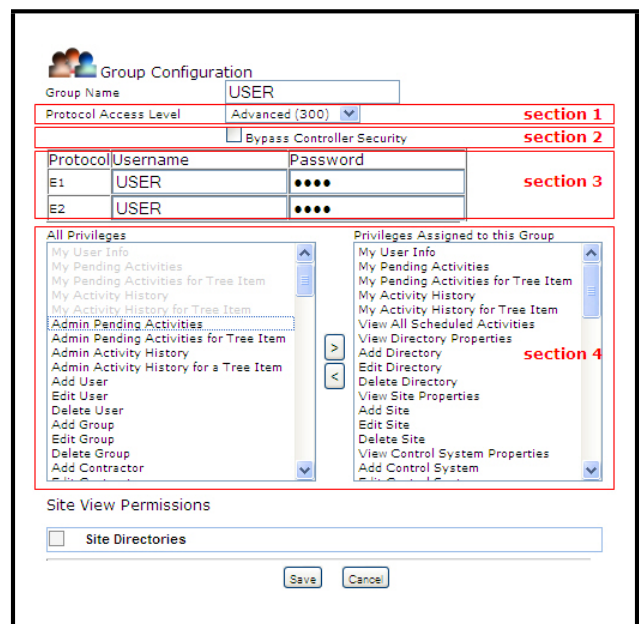

Figure 4-18 - Group Configuration Page
The PAL can be driven either at the Group level (*Figure 4-18*) or at the Control System level. Normally, the Protocol Access Level is default at the Group configuration level. The configurations set at the Control System level will bypass those set at the Group level. This allows users to “manage by exception” the security settings for their network of controllers. For example:
2. The Group PAL configuration (*Figure 4-18*) has three sections that can drive the PAL that will be applied when logging to the controller:
- The PAL selected for the Group (*Figure 4-18*, section 1) - This is the “Site Manager Group’s Protocol Access Level.” Special rules apply to determine how the menus will behave when this PAL differs from the PAL belonging to the Username/Password set at the Group or Control System level, whichever prevails (as explained in the next bullet). These rules are explained in *Table 4-1*.
- The PAL configured for a User/Password already set in the controller for a specific protocol (i.e., E1, E2, XWEB) as entered in the User/Password pane (*Figure 4-18*, section 3).
- Alternatively, if the **Bypass Controller Security** option is enabled (*Figure 4-18*, section 2), the system will use the PAL set in the **Protocol Access Level** drop-down (*Figure 4-18*, section 1). Enabling this option will also hide and bypass the User/Pass-
word pane (*Figure 4-18*, section 3) and bypass those set at the Control System level (if there is any). For additional information about PAL configuration at the Control System level, see **Section 5.4.3., Edit/Configure Control System**
Assigning Privileges: To enable users in a group to use an activity, privileges must be selected for the Group under the **Privileges Assigned to this Group** section (*Figure 4-18*, section 4). Use the left arrow button to select (right arrow button to remove) which privileges will be assigned to the Group (the privileges that are assigned will be grayed out so they cannot be assigned twice). A privilege is an activity that can be performed in Site Manager.
Site Manager Group's Protocol Access Level (Figure 4-18, section 1)